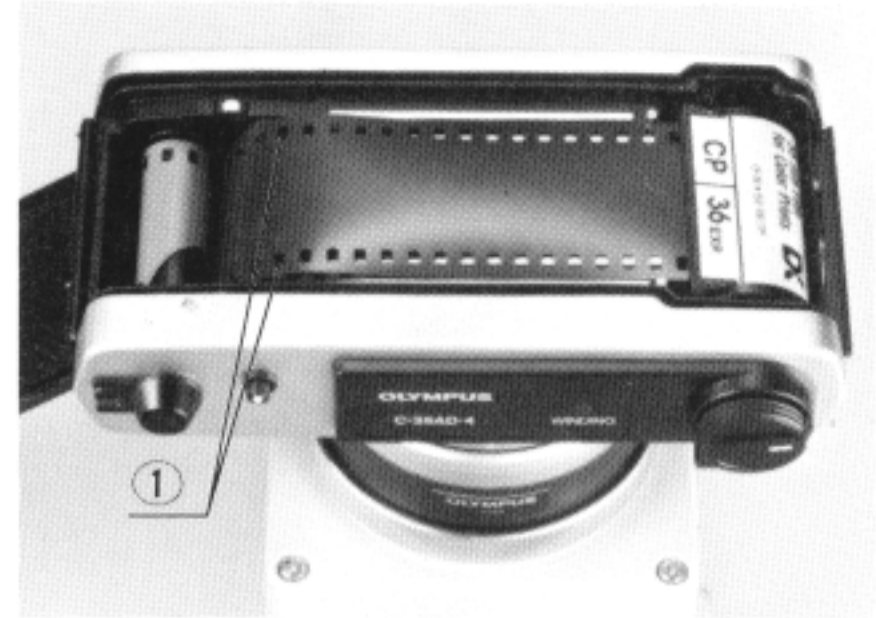

Fig. 17
- 4) Press the film advance button (TIME OFF/WINDING) on the control unit and advance the film until the film perforations engage the sprockets ① on both sides. (Fig. 17)